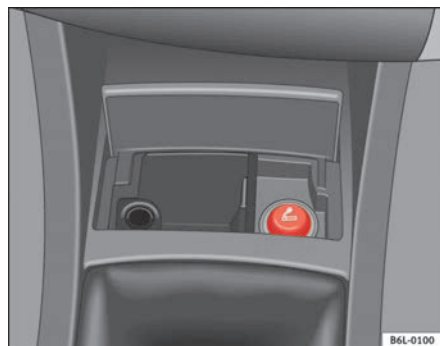

Fig. 86 Cigarette lighter
- Press on the cigarette lighter ⇒ fig. 86 to activate it ⇒ .